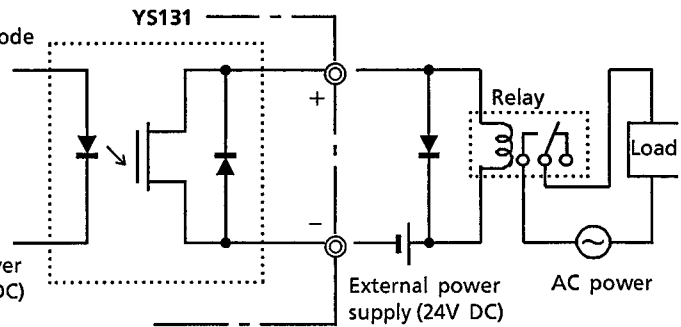

Figure 3.7 Connection of the Status Output when Driving a Load with AC Power
- An AC load cannot be switched directly by using the transistor contact. To switch the AC load, use a relay (see Figure 3.7).